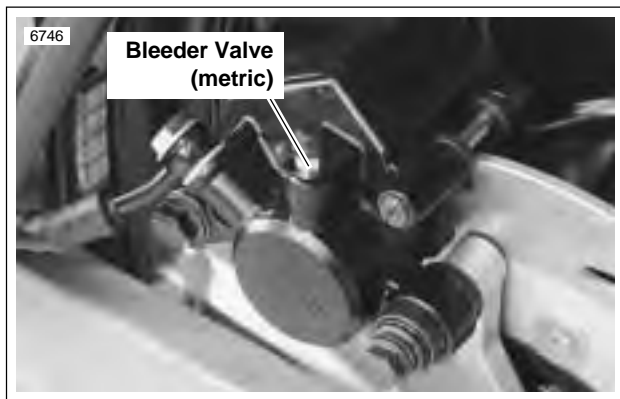

Figure 1-9. Rear Brake Caliper Bleeder Valve
- b. Rear brake caliper bleeder valve-Figure 1-9.